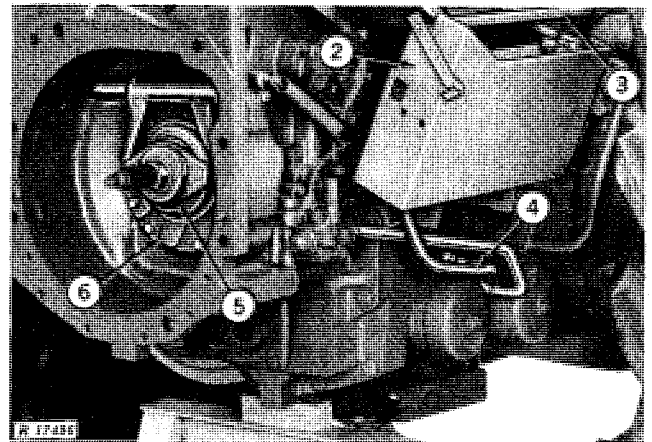

Fig. 8-Left-Hand Side of Clutch Housing
5. Disconnect the clutch rod (Figs. 8 and 9). Remove clutch fork shaft retainer, shaft, fork, and bearing carrier.